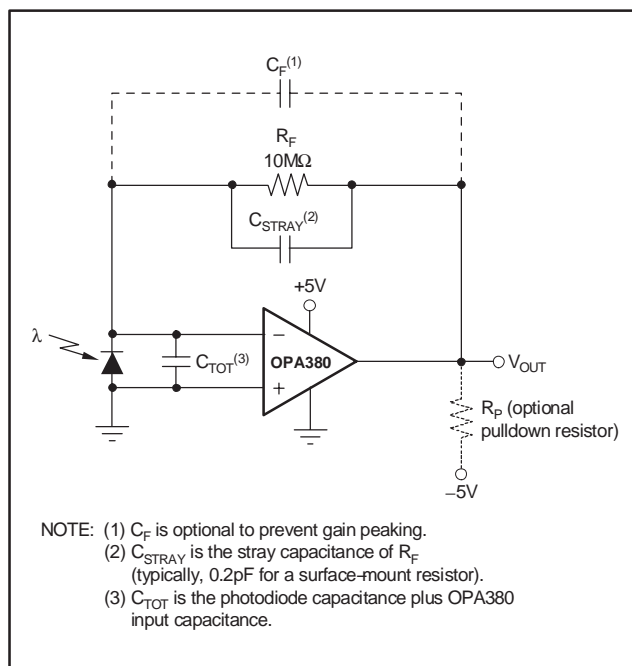

Figure 5. Transimpedance Amplifier
(1) 300-hour life test at $150^\circ C$ demonstrated randomly distributed variation approximately equal to measurement repeatability of $1\mu V$.
(2) Tested with output connected only to R_P , a pulldown resistor connected between V_{OUT} and $-5V$, as shown in Figure 5. See also applications section, *Achieving Output Swing to Ground*.
The key elements to a transimpedance design are shown in Figure 5: